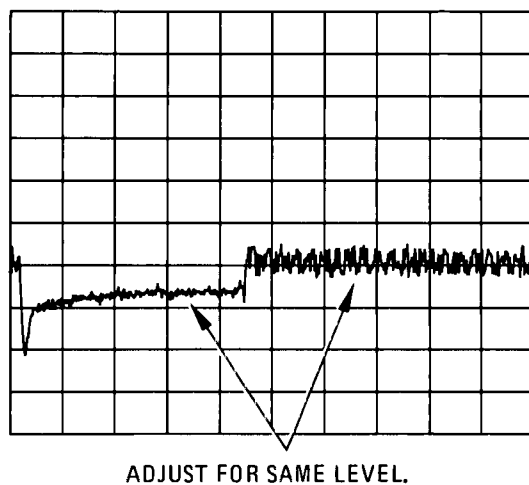

Figure 5-66. Typical A26TP2 (DET) Pulse Waveform
5. Set the oscilloscope to 1 usec/Div the CH A trace should be similar to Figure 5-66